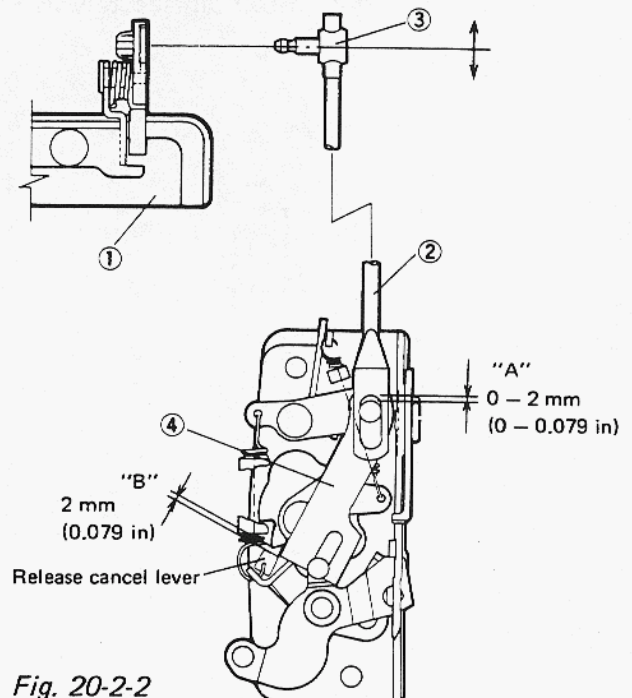

Fig. 20-2-2
When installing open rod ② onto outside open handle ①, adjust clearances "A" to 0 – 2 mm (0 – 0.079 in) and "B" to 2 mm (0.079 in) as shown in Fig. 20-2-2 by turning adjusting joint ③.